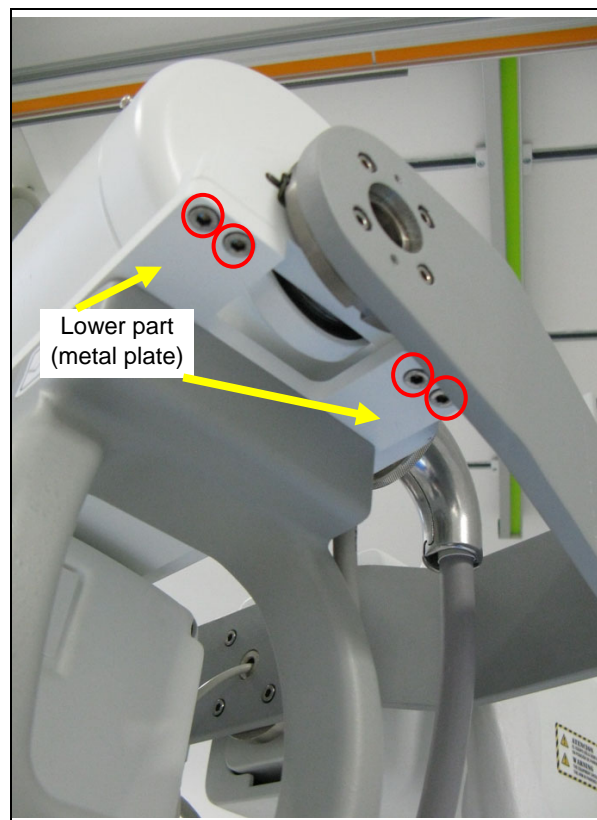

Figure 11
- (5) Remove the four M5 screws from the lower part of the tube - collimator assembly as indicated in Figure 11.